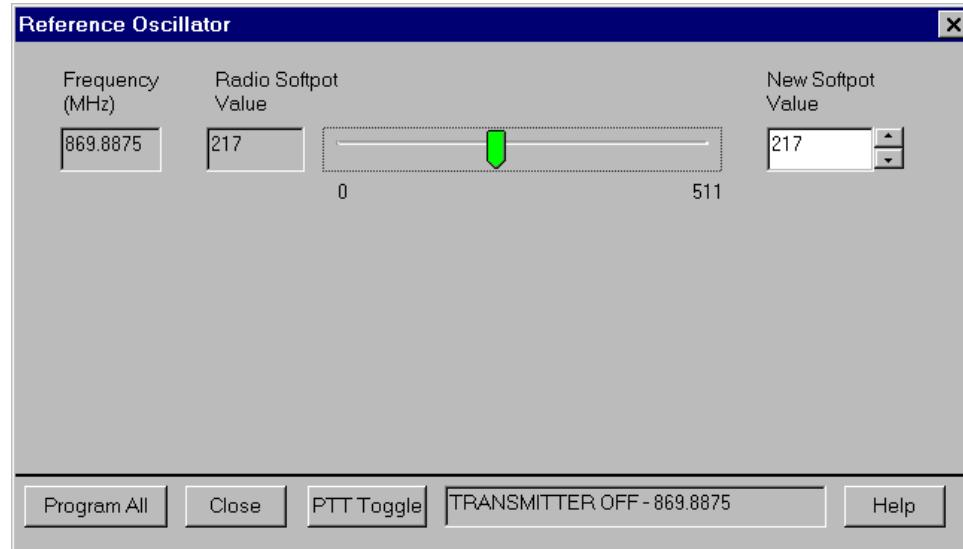

Figure 9. Reference Oscillator Alignment Screen
1. Select the **Reference Oscillator** alignment screen. See Figure 9.